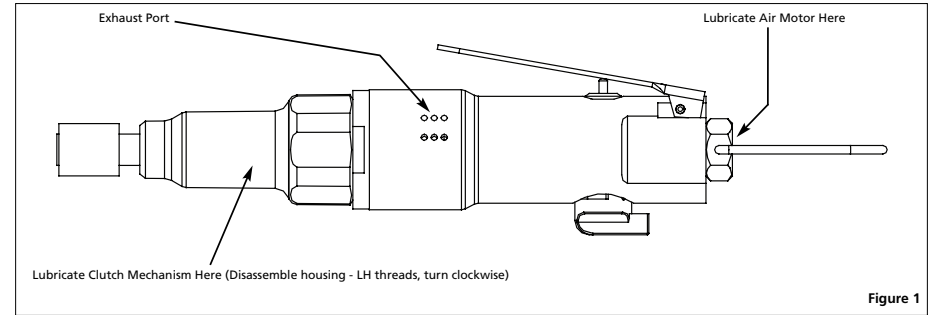

Figure 1
3. Connect the air tool to the air supply and cover the exhaust port with a towel (See Figure 1). Run the air tool in both directions for 7 to 10 seconds. Oil will discharge from the exhaust port when air pressure is applied.
Air screwdrivers require lubrication throughout the life of the tool. Follow the outlined procedures and refer to Figures 1 and 2 for details. Air tool oil is recommended because this oil cleans, lubricates and inhibits rust all in one step.